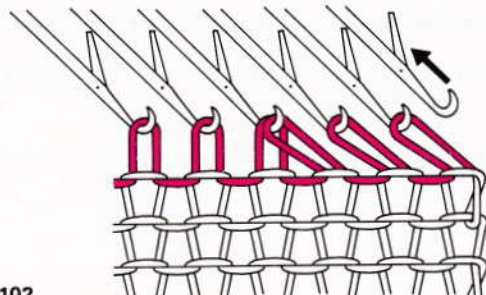

Fig. 102
- Push empty needle at each side back to A position (fig. 102).